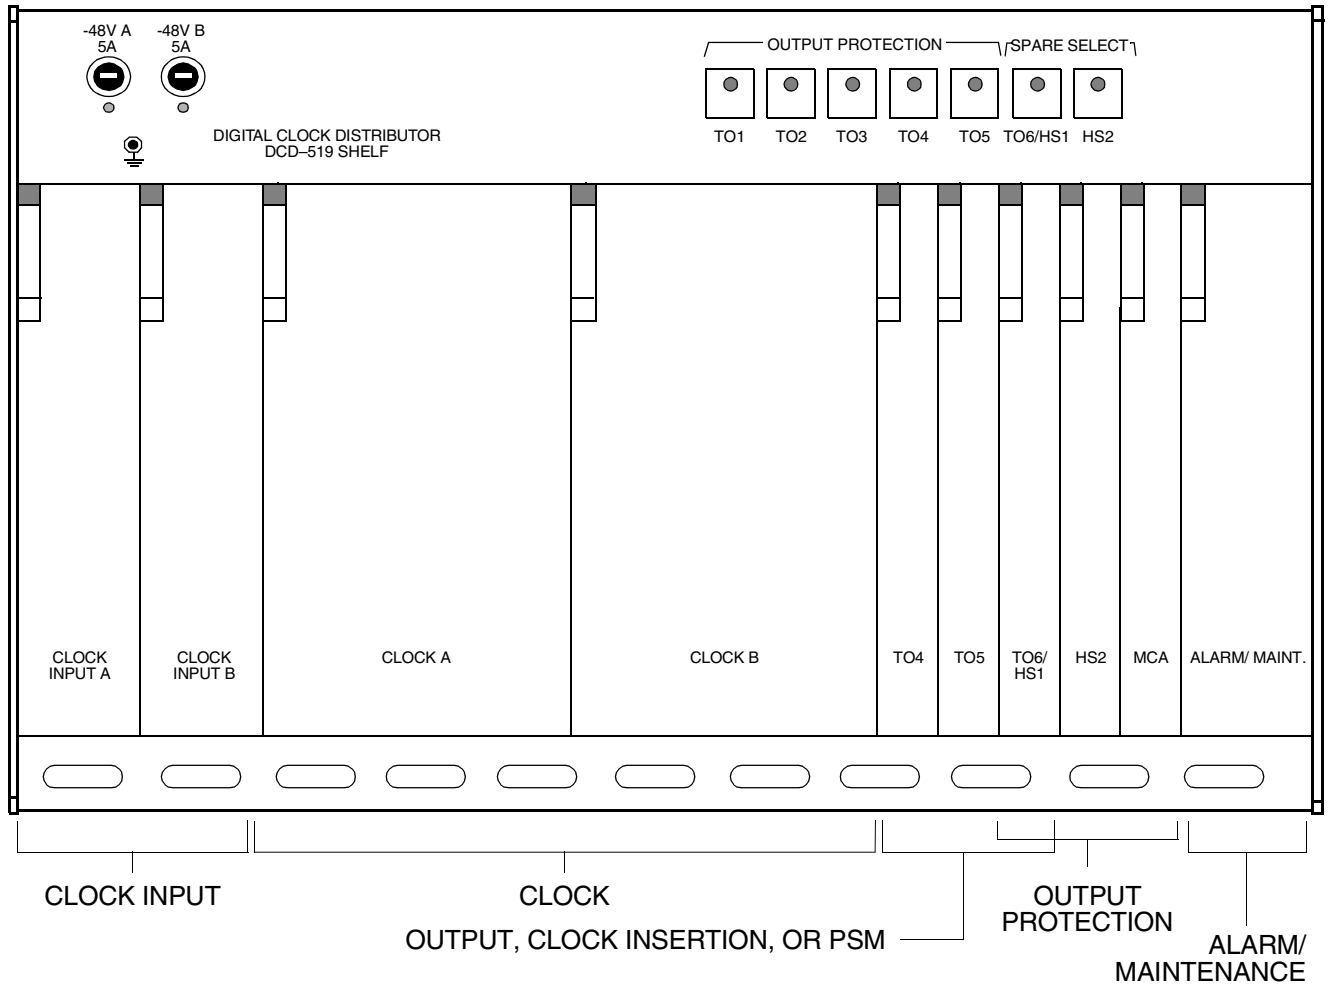
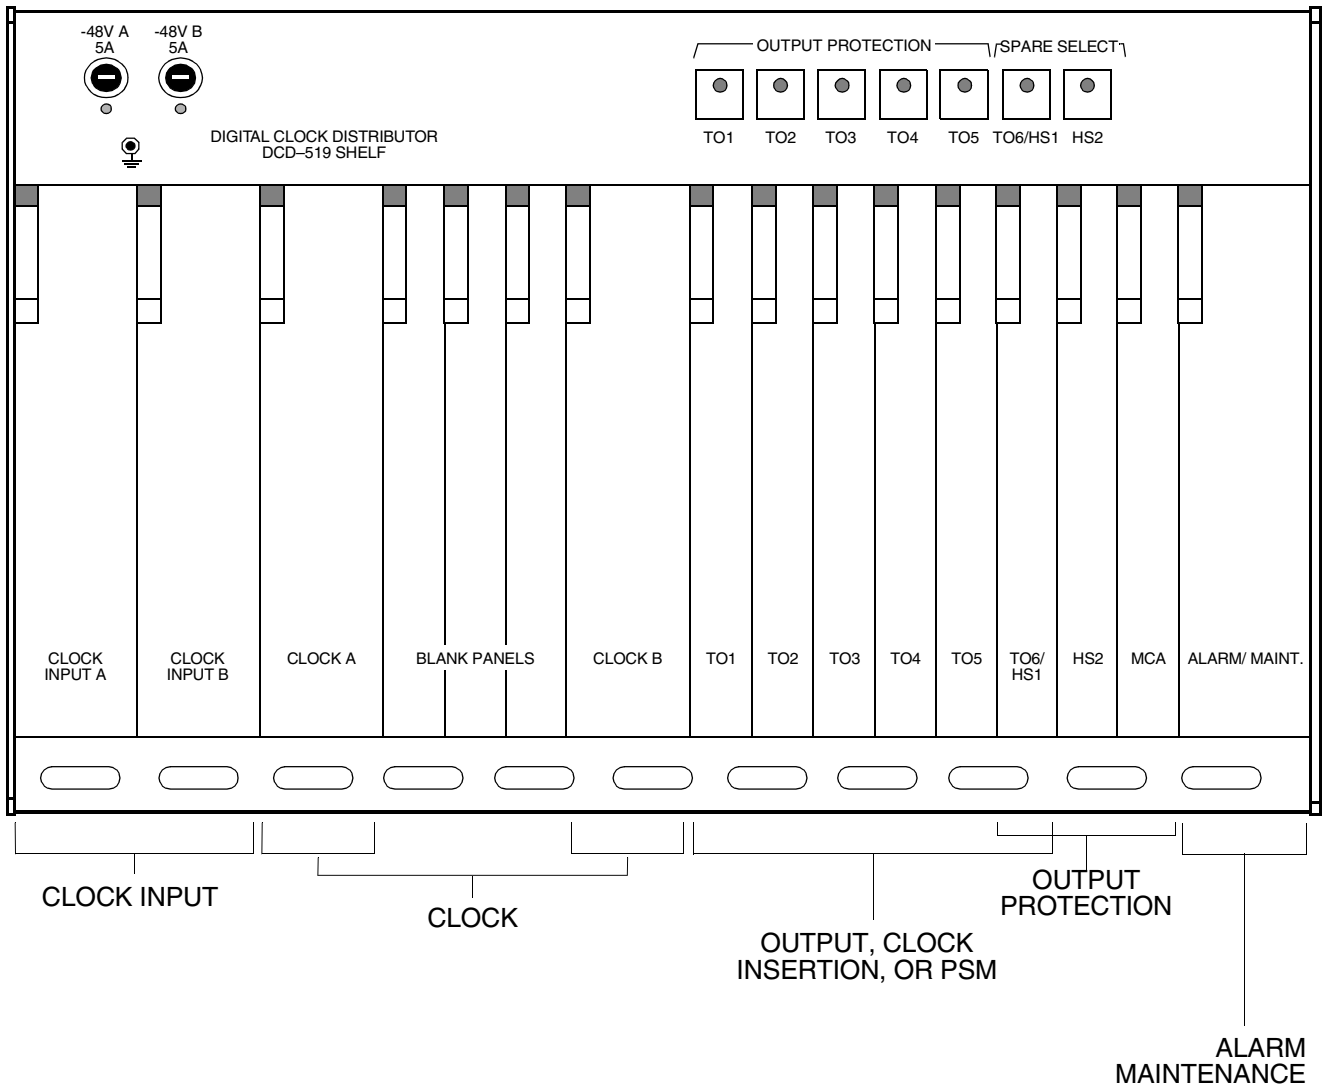

Figure 2. Master Shelf with Rubidium Clock Cards
Figure 3. Master Shelf with Quartz Clock Cards
**3.11** Figure 2 shows the master shelf equipped with rubidium clock cards; Figure 3 shows the master shelf equipped with quartz clock cards.